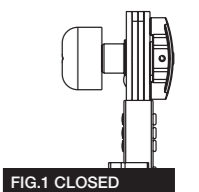

FIG.1 CLOSED
- 1) With the center hinges in the closed position (Fig. 1) push the knobs with the palm of your hand directly onto the centre of the ladder, they will stay in the open position.